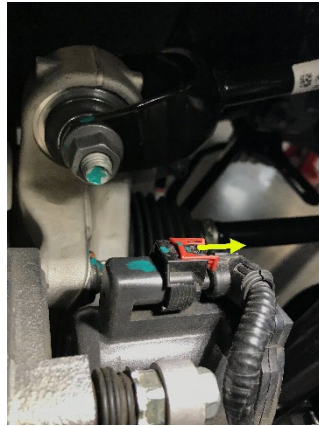

Figure 15 (Model 3 shown, other models similar)
23. Release the red retaining tab and disconnect the electrical harness from the rear LH caliper connector (Figure 15).